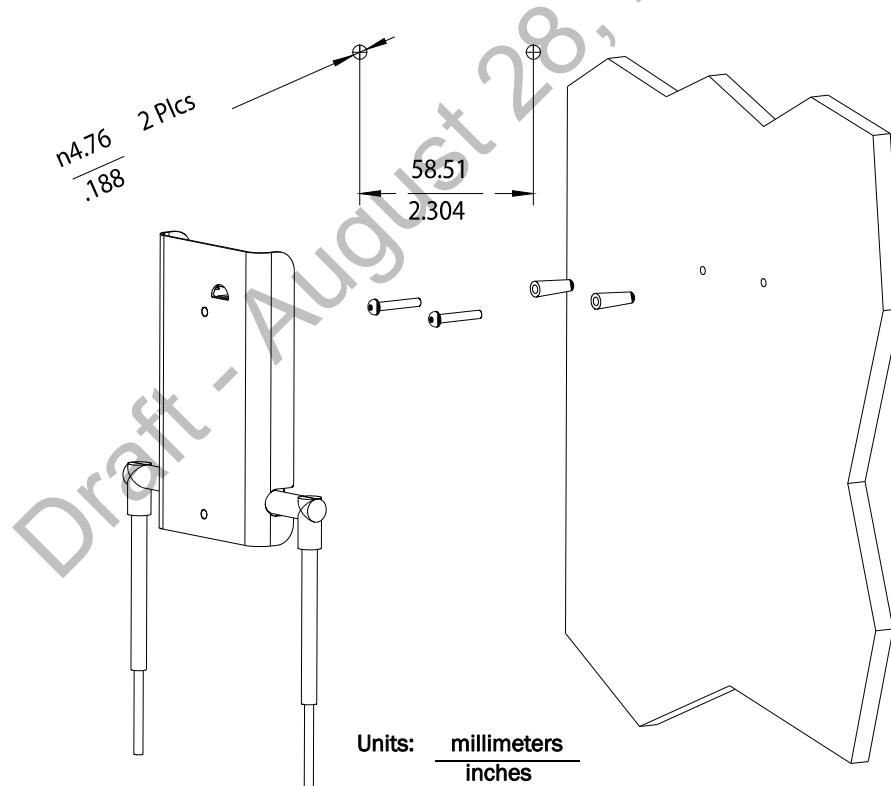

Figure 2-14: Mounting the IntelliVue Smart-hopping 1.4 GHz Remote Antenna to a Wall
1. Using a 3/16-inch drill bit, drill two pilot holes 0.188 inches (5 mm) in diameter at the locations shown in Figure 2-14.
3. Screw a supplied #6 x 1 1/4 inch self-tapping screw into each screw anchor (or pilot hole) as shown in Figure 2-14.
4. While holding the RA chassis with its antennas pointing down as shown in Figure 2-14, fit the holes in the back of the RA chassis over the screw heads